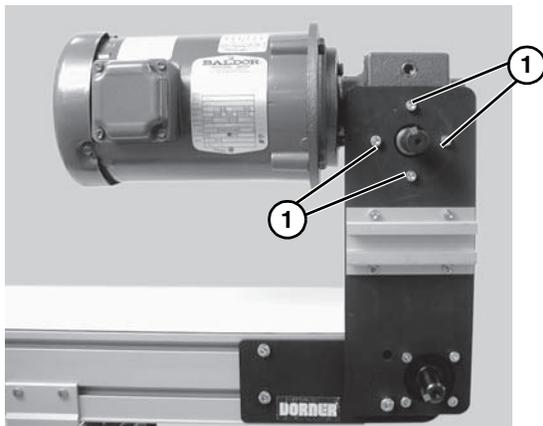

Figure 18
- Remove four (4) gear reducer mounting screws (**Figure 18, item 1**). Remove gearmotor.
- Install gearmotor to mounting bracket and tighten screws (**Figure 18, item 1**) to 110 in-lb (12 Nm).